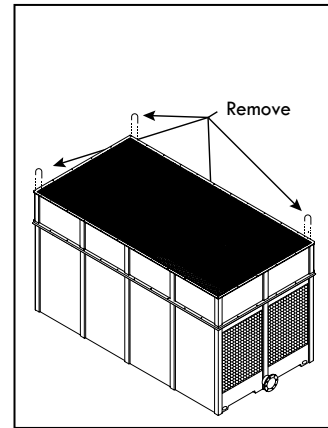

Figure A-111: Removing U-bolts from the Lower Body section for a modular tower (RTGMTC-G & RTGMTC-H)
- L. **Only for RTGMTC-G & RTGMTC-H models:** Remove U-bolts from Lower Body section before installing the next section (see Figure A-111).